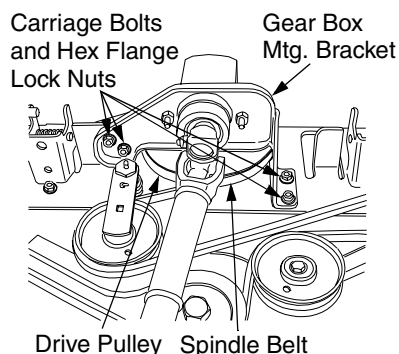

Figure 51
5. Remove the two hex flange lock nuts and carriage bolts securing the left side of the gear box mounting bracket to the deck (See Figure 51).
6. Remove the two hex flange lock nuts and carriage bolts securing the right side of the gear box mounting bracket to the deck plate (See Figure 51).
of the drive pulley, and through the center opening of the mounting bracket (See Figure 51).